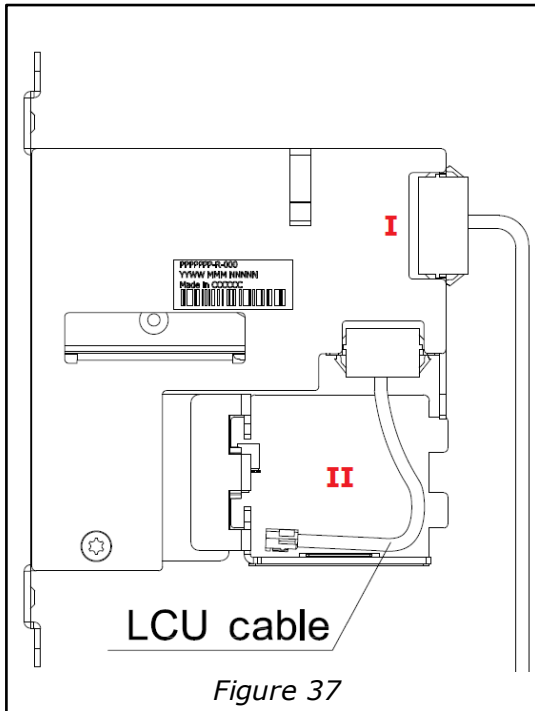

Figure 37
16. Connect the lock case cable to the Essence cassette (I in Figure 37).
Make sure that the LCU cable is well positioned in the space marked with II in Figure 37, to avoid pinching of the cable.